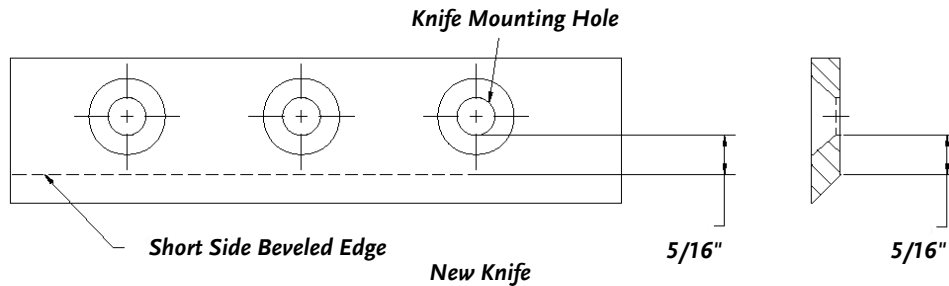

Figure 43
- A new Chipper Knife has 5/16" measurement between the short side bevel edge and the Knife mounting holes (**Figure 43 "New Knife"**).